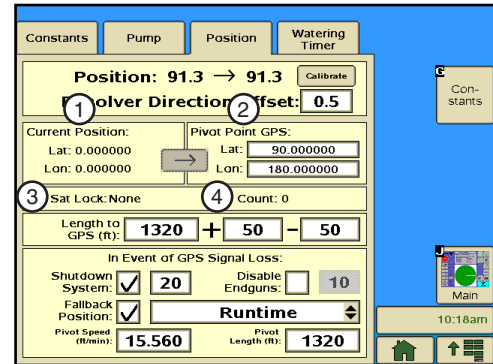

Figure 36-1 1. Current Position
Current Position displays the current latitude and longitude of the GPS antenna when its locked on the satellite signal. The current position is only displayed when the **Com Port** protocol is set to **GPS V1** or **PLC GPS V2**. Refer to Figure 36-1.
Pivot Point GPS displays the longitude and latitude of the pivot point. Pivot point GPS is only displayed when the **Com Port** protocol is set to **GPS V1** or **PLC GPS V2**. Refer to Figure 36-1.
1. Push **Setup**, **Constants**, **Position** to display the Position settings. Refer to Figure 36-1.
Satellite Lock displays the satellite signal (**None**, **Standard** or **DGPS**) that the GPS antenna is locked on. Refer to Figure 36-1.
Satellite Count displays the number of satellites in view. Refer to Figure 36-1.